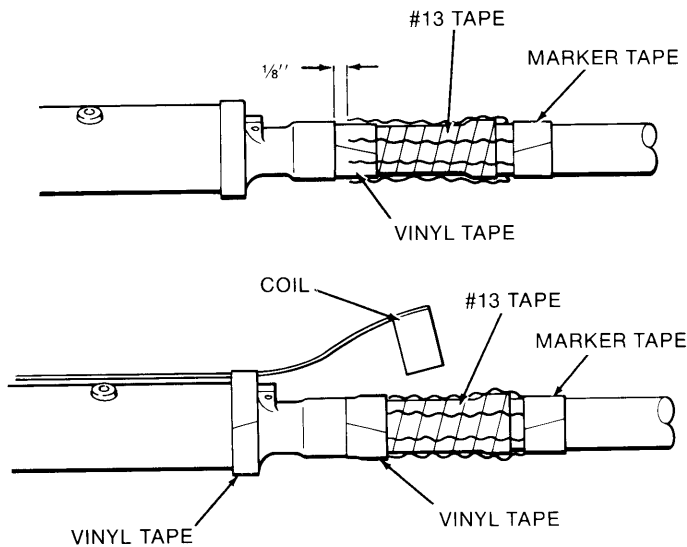

Figure 5
- a. Hold the flat strap of the shield continuity assembly against the mold body with a wrap or two of vinyl tape at each end of splice (Figure 5). Form the shield continuity strap over the splice shoulder on each end. Make certain coils are only positioned over **ground wires** before securing strap to splice. Avoid laying flat strap over splice grounding eyes.